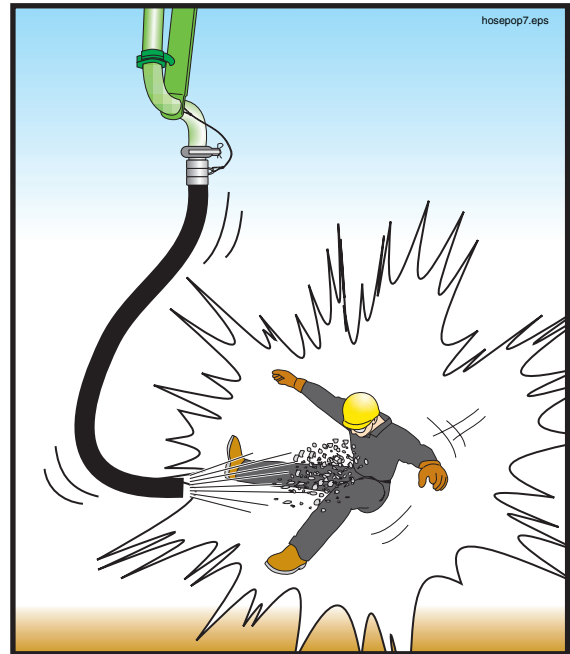

Figure 82
17.5 **⚠ WARNING** When the operator is initially priming the delivery system, restarting after moving, restarting after adding or removing pipes or hoses, or any time that air has been introduced into the delivery system, stand a reasonable and prudent distance away from the tip hose or point of discharge. Do not get near the discharge until material runs steadily and there is no movement of the delivery system. (Figure 82). Compressed air in the line can cause rubber hose to move violently. If the operator tells you that air is coming in the delivery system, proceed as follows: